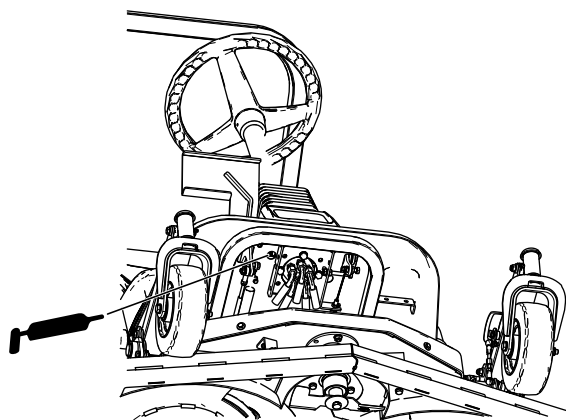

Figure 38
- Traction pedal pivot bushing (Figure 38)